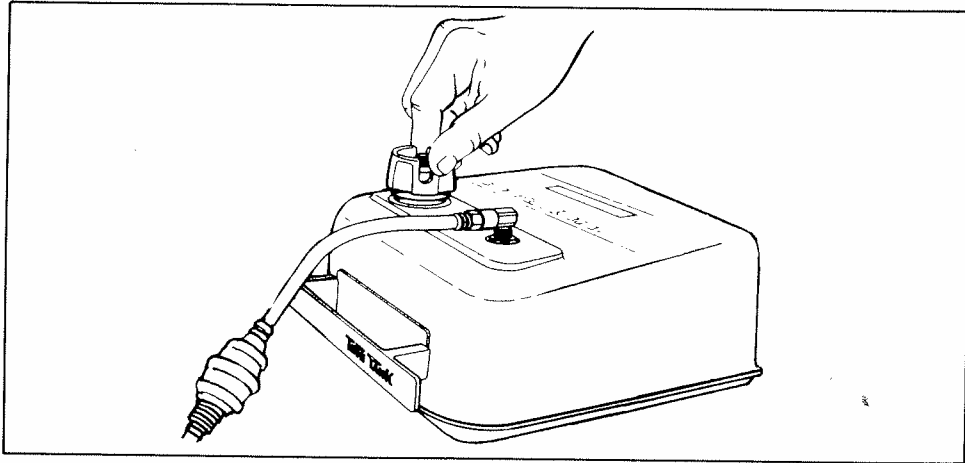

FIGURE 9
1. Make sure that fuel tank has a sufficient amount of properly mixed fuel and that vent screw located on fuel tank filler cap or gauge is open. (See Figure 9.)